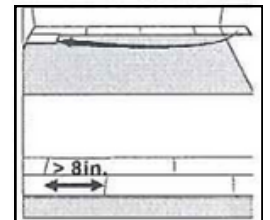

Figure 2
1. Begin the second row with the cut piece from the first row. **(Figure 2)** If the cut piece is shorter than 8" (20cm), do not use it. Instead, begin with a new board to the left as necessary to align the edges of the end joint of the first row..